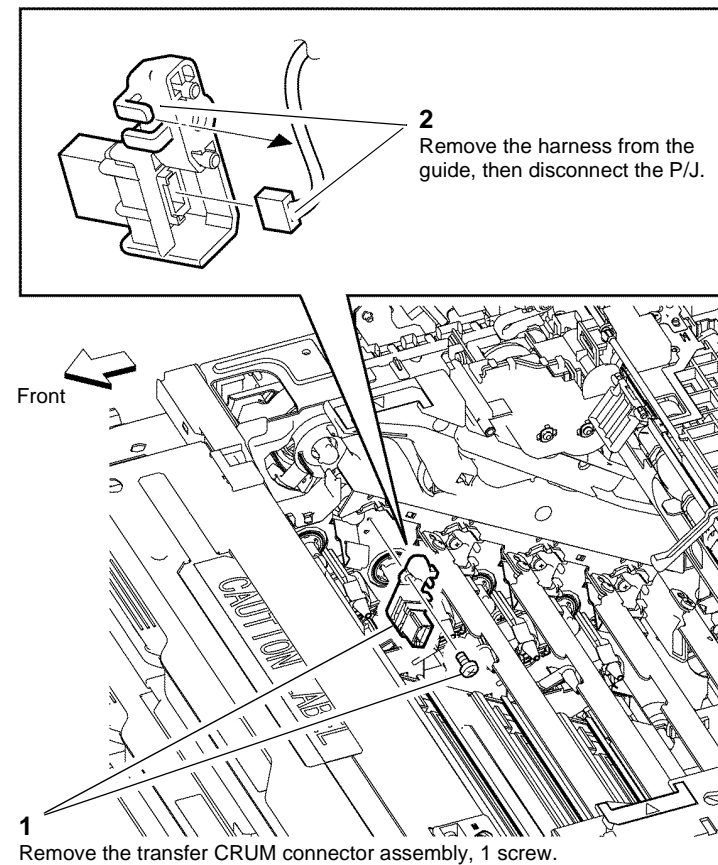

Figure 1 Transfer CRUM connector assembly
5. Remove the transfer CRUM connector assembly, Figure 1.